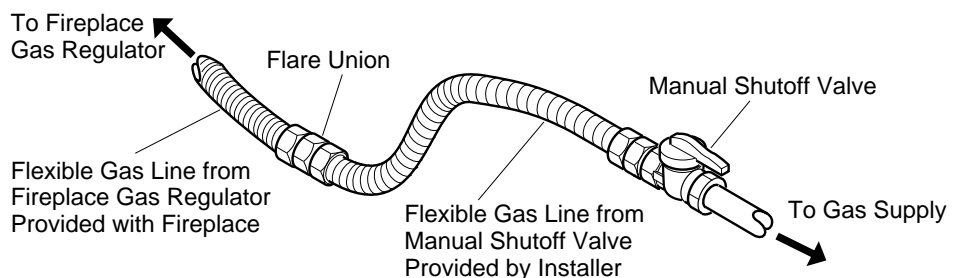

Figure 20 - Attaching Flexible Gas Lines Together
NOTICE: Most building codes do not permit concealed gas connections. A flexible gas line is provided to allow accessibility from the fireplace (see Figure 20). The flexible gas supply line connection to the manual shutoff valve should be accessible.
4. Attach a 45° flare union gas connector to flexible gas line from gas supply (see Figure 20). Connect flare union to flexible gas line attached to gas regulator of fireplace (see Figure 20).